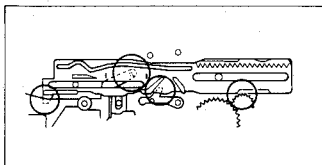
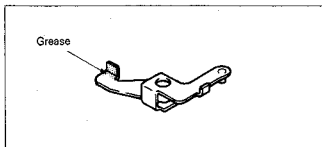

Fig. 7-42.
Fig. 7-43.
- 2) Push mode arm ② in the direction of arrow ④, and mount the M slider ⑤, noting the positioning of the other parts as shown in Fig. 7-42, and fix the stopper washer ⑩.
- 3) Mount hard brake S ⑪ and hook spring ⑬.
- 4) Grease. (See Fig. 7-43.)
- 5) Put a half drop of oil from the shaft ⑫ groove to the bottom, mount the pinch press lever assembly ① and insert the E ring ⑨.
- 6) Mount RL arm ⑧, hook the spring ⑥ and fix the stopper washer ⑦.
- 7) Mount B release slider ④ and fix stopper washer ⑩.
- 8) Mount REW brak spacer ③ and REW brake assembly ②.
- 9) Hook the two springs ①.